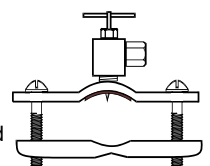

Figure 1
2. Positioning the Take-off Valve. (Refer Figure 1)